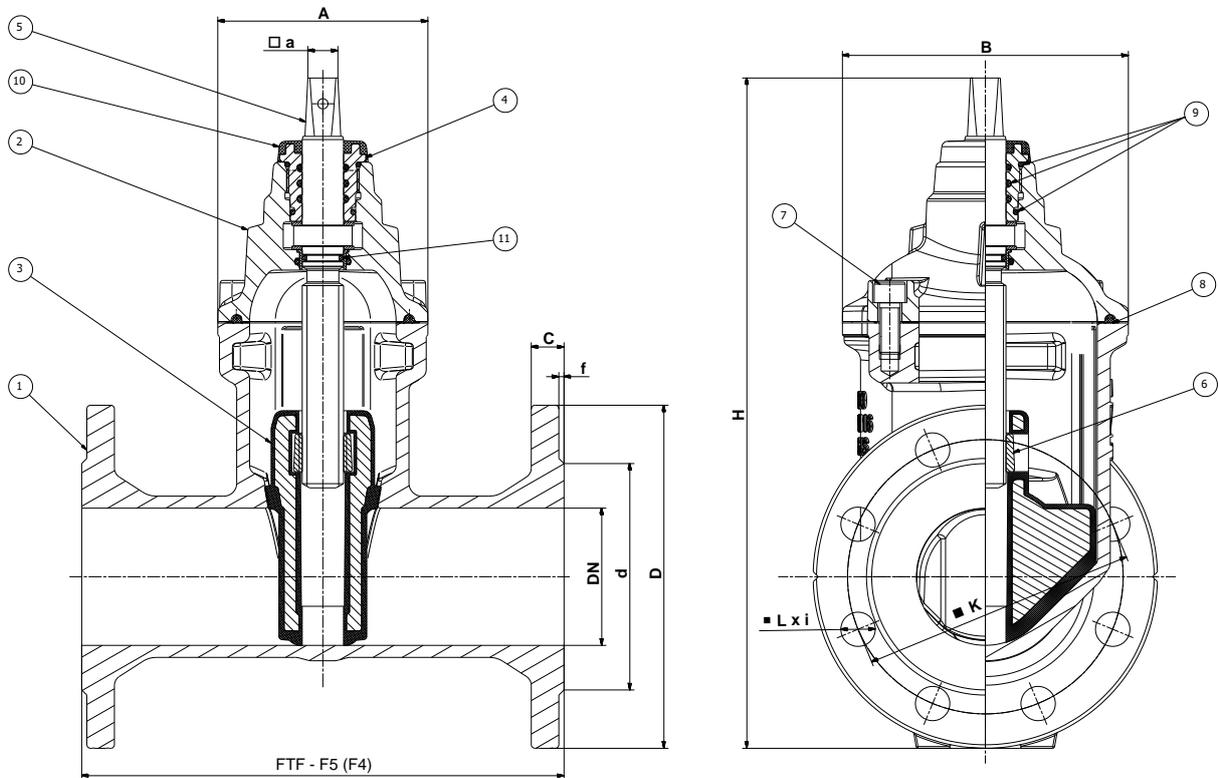

Figure 1: Gate valve cross-sectional drawing
- 1.3. Construction and principle of operation (Fig.1, Tab.2)
1.3 Construction and principle of operation (Figure 1, Table 2)
The main parts of the gate valve are shown in Fig.1.